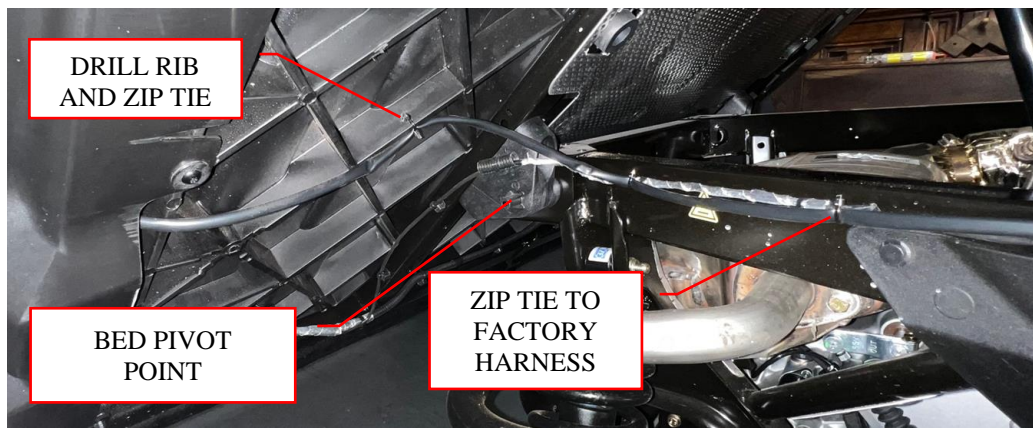
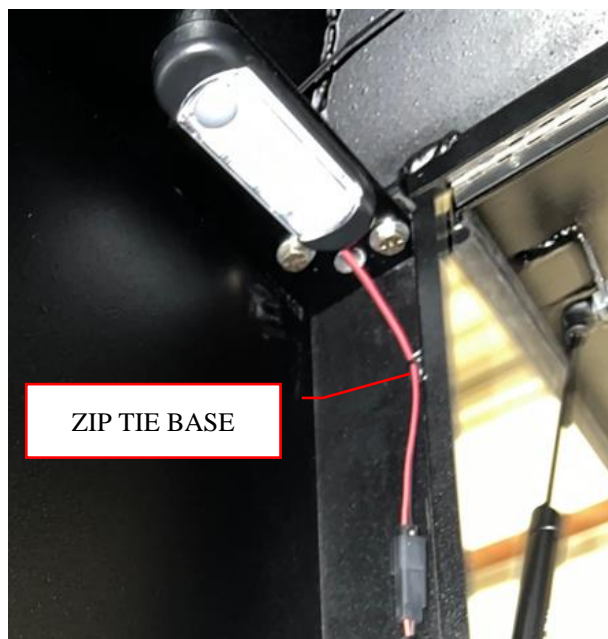

Figure 11: Run the harness under the bed.
Figure 13: Secure harness with zip tie bases.
8. Under the bed, drill a small hole through the plastic rib and loosely zip tie the harness up. Continue loosely zip tying the harness along the frame to the factory wire harness moving toward the cab. See Figure 11.
11. Use the supplied stick-on zip tie bases to secure the harness in place inside the top. Make sure you clean under each base with an alcohol wipe before pressing in place. Pull the harness tight to neatly secure along its path through the top, under the bed, and along the frame. Be sure to leave a little slack in the harness near the bed pivot point so it does not get stretched while tilting the bed. See Figure 11 and Figure 13.